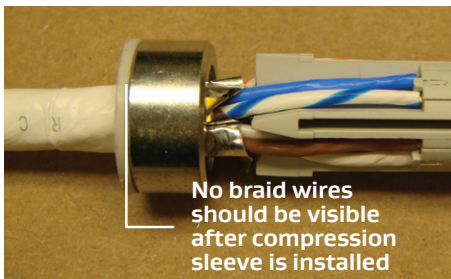

Figure 37: Sliding the compression sleeve
24. Slide the compression sleeve back down over the braid wire and support sleeve. You should not see any braid wires after the compression sleeve is installed (Figure 37).